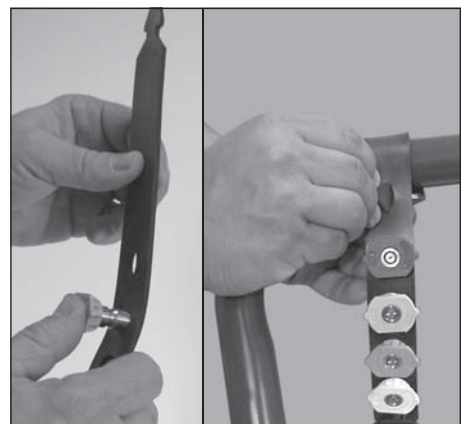

Figure 9 - Insert spray tips into rubber tip holder
6. Install quick connect tips to tip holder and secure to the pressure washer handle (see Figure 9).